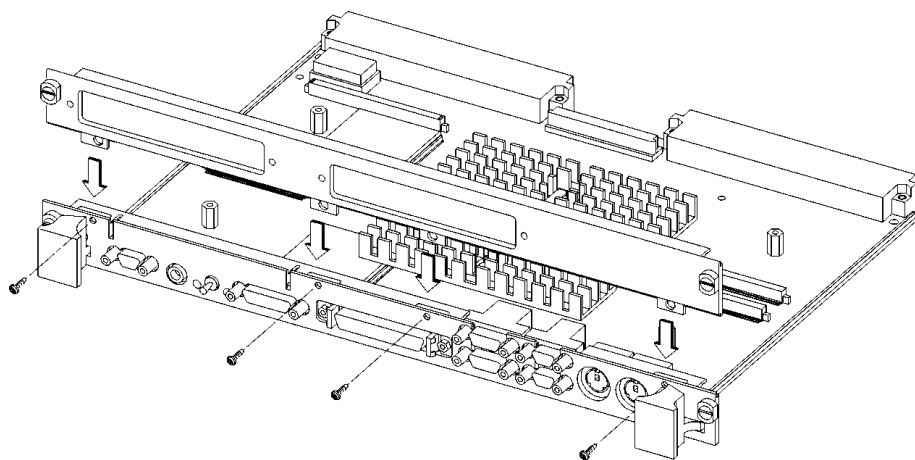

Figure 2-3 **Adding the Front Panel Screws**
- 6 Insert the four front panel screws, finger tighten, then snug down with a screwdriver, as shown in Figure 2-3.